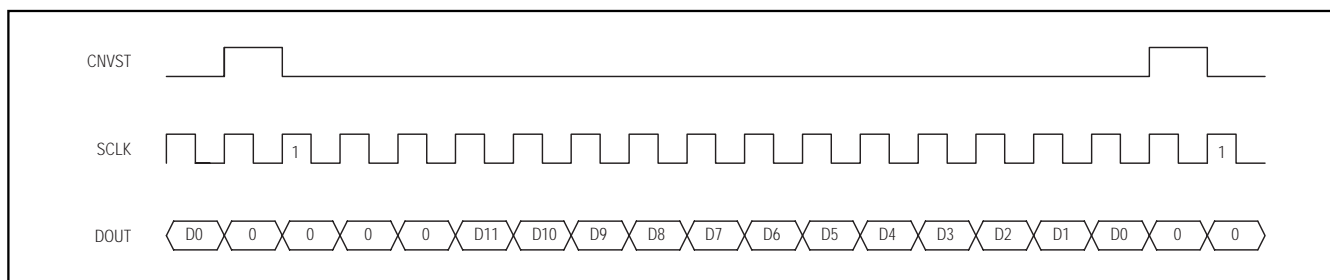

Figure 17. DSP Interface—Continuous Conversion
The MAX1277/MAX1279 can also be connected to the TMS320C54_ by using the data transmit (DX) pin to drive CNVST and the CLKX generated internally to drive SCLK. A pullup resistor is required on the CNVST signal to keep it high when DX goes high impedance and 0001hex should be written to the DXR continuously for continuous conversions. The power-down modes may be entered by writing 00FFhex to the DXR (see Figures 17 and 18).
and for an active-low frame (LTFS = 1, LRFS = 1) signal. This is also the best way to enter the power-down modes by setting the word length to 8 bits (SLEN = 1001). Connect the V_L pin to the ADSP21_ _ _ supply voltage when the MAX1277/MAX1279 are operating with a supply voltage higher than the DSP supply voltage (see Figures 17 and 18).